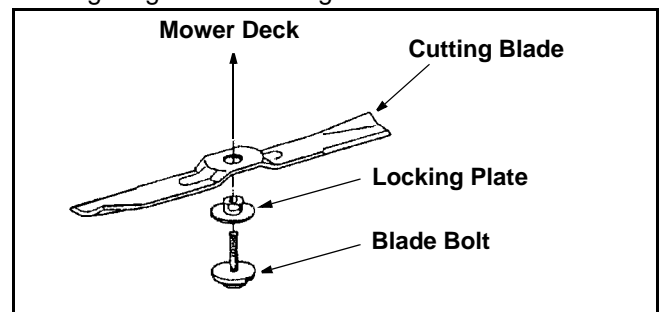

Figure 14
- Place the cutting blade, locking plate, and blade bolt on the motor shaft and thread the blade bolt in finger tight. Refer to Figure 14.